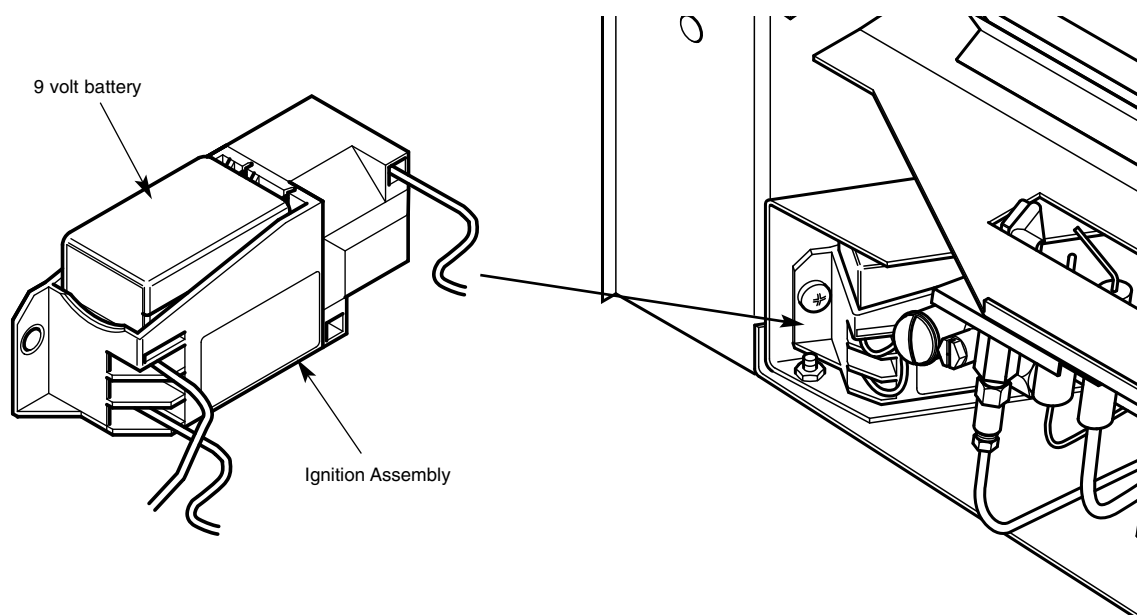

Fig. 10
5. **Battery Replacement** - The battery will need replacing from time to time. To change the battery, switch off the appliance and leave to cool down. Remove the fire front and locate the battery holder (Fig.10). This is located at the bottom left hand side of the appliance. Remove the battery. Replace with a good quality alkaline battery.